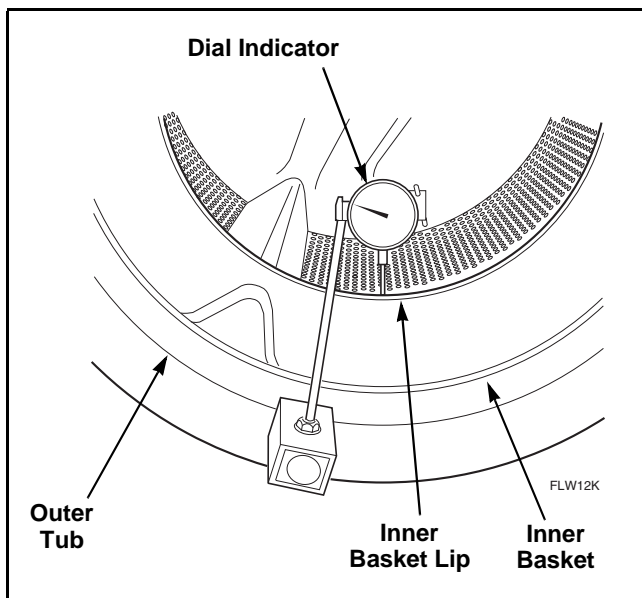

Figure 54
- i. Check for concentricity/roundness of assembly. Use a dial indicator to check that concentricity at the inside edge of inner basket lip is a maximum of .05 inch TIR (Total Indicator Runout). Refer to *Figure 54*. If concentricity is not within .05 inch, remove assembly from washer and adjust location of trunnion. Repeat until concentricity is within .05 inch.